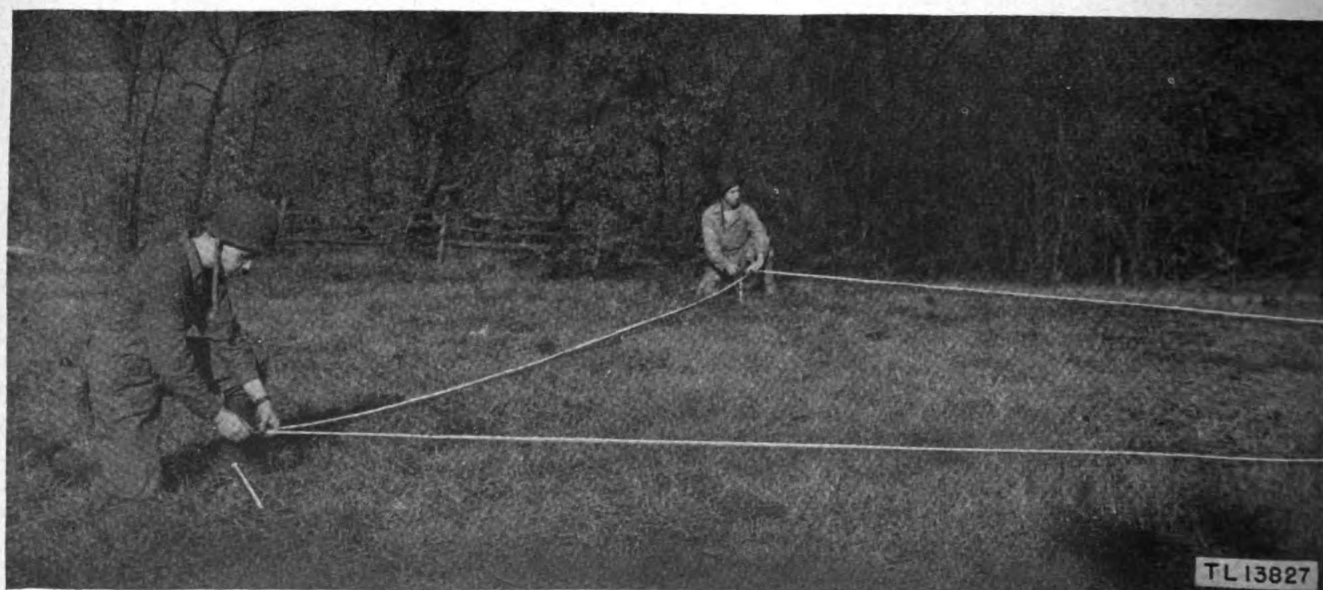

Figure 20. Radio Set AN/MRC-1—receiving antenna guy clips.
i. Clip the tops of the guys to the top guy plate. (See fig. 20.) Keep one complete guy in the back and one in the front of the masts. The guy plates have five holes in them, four of which form a square.